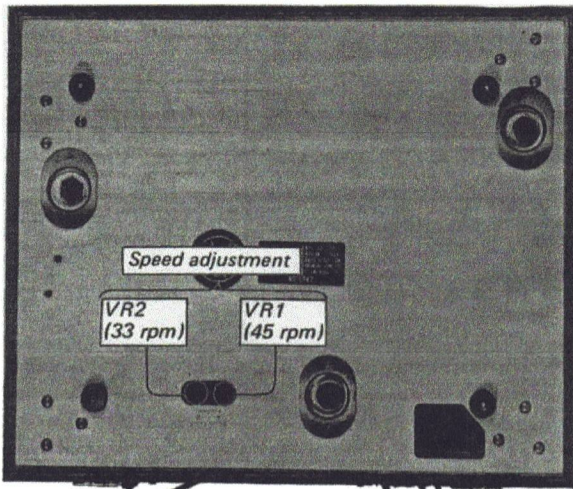

Fig. 3-1. Speed adjustment
3. Set the $3\frac{3}{4}$ control to the 45 position and then turn adjustable resistor VR1 (See Fig. 3-1) to obtain the correct strobe indication.
4. After completing the 45 rpm adjustment, proceed to the 33 rpm adjustment as previously described, except turning adjustable resistor VR2 (See Fig. 3-1).